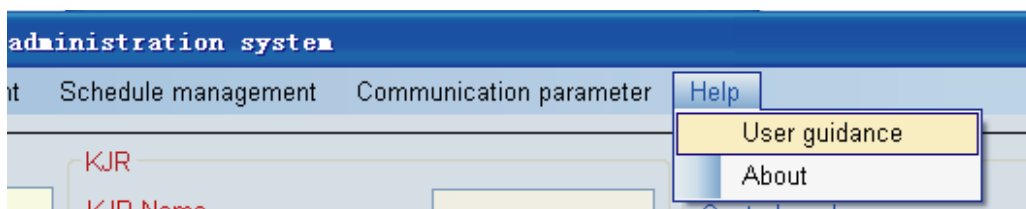

Fig.4-55
5) “Help” includes: “User guidance” and “About” . See Fig. 4-55